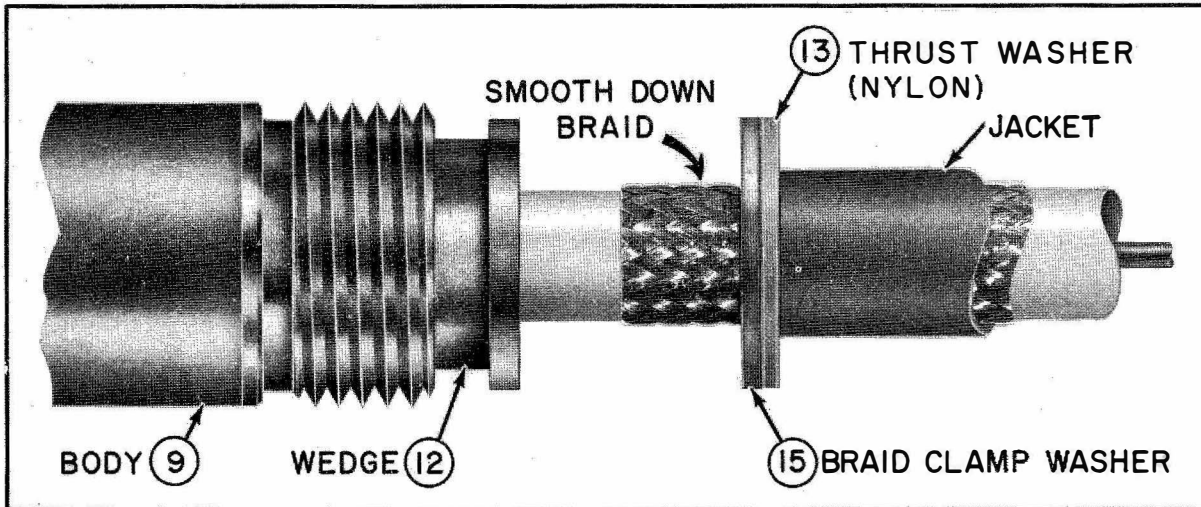
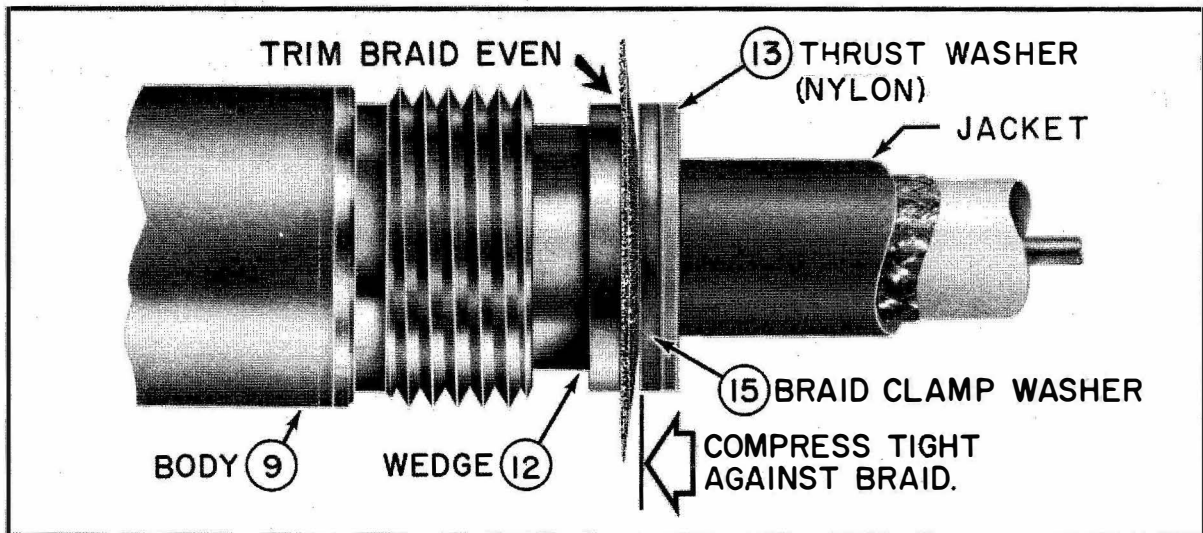

Figure 5-8l. Reinstalling Jacket and Braid
Figure 5-8m. Trimming Braid
Step 11. - Remove the tape and smooth the braid around the cable dielectric at the hull fitting. Slide the thrust and braid clamp washers over the braid and up against the cable jacket as illustrated in figure 5-8l. Fan out the braid and bend the braid over the braid clamp washer. Force the jacket and braid up the cable until the braid is clamped between the wedge and braid clamp washer. Trim the braid even with the outer edge of the braid clamp washer and wedge as illustrated in figure 5-8m.